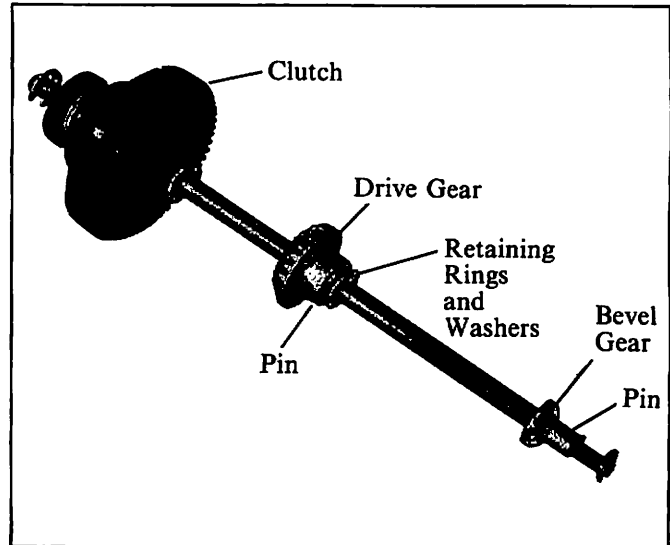

Figure 12. Clutch Shaft Group.
1. Clutch Shaft Parts Replacement. See Figure 12.